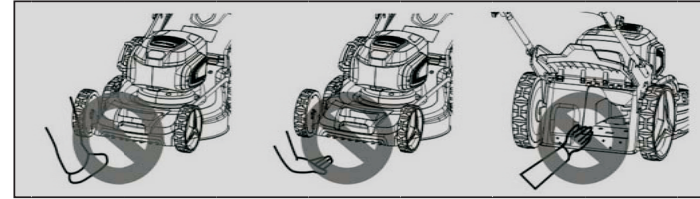

Fig.12C
5. Never place your hands or feet underneath the under pan or into the rear discharge chute while the motor is running. (Fig.12C)